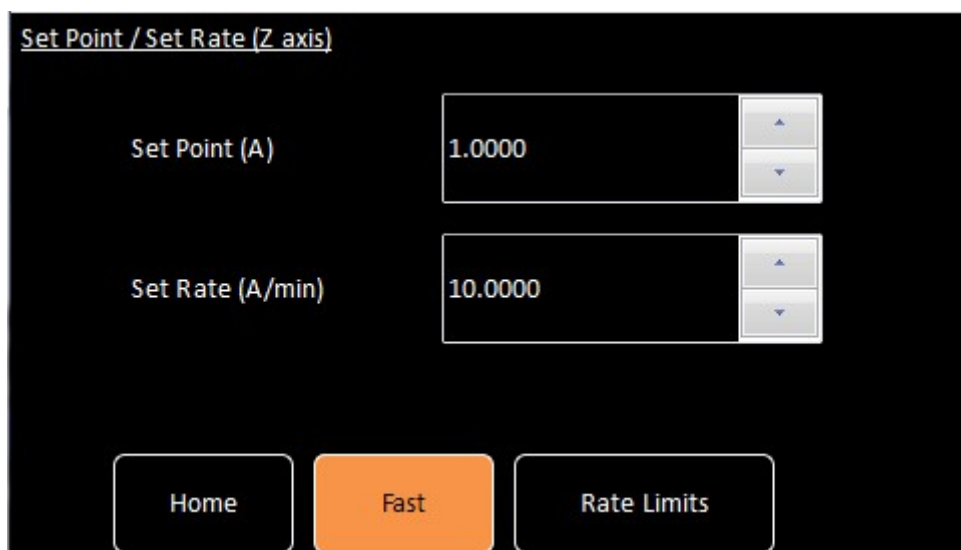

Figure 14. Set Point / Set Rate screen
To energise the magnet it is necessary to enter a set point (target current or target field) and a set ramp rate at which to ramp the magnet current. To do this, tap on the “Current (A)” display of the Home page (Note: if the Home page is in “Tesla” mode, tap on the “Field (T)” display). This will bring up the “Set Point / Set Rate” page show below (Figure 14).
The Fast/Slow button on the “Set Point / Set Rate” page (Figure 14) defines whether fast magnet rate limits, or slow magnet rate limits will be applied. In general fast rate limits should be used. The slow rates are usually only used for training magnets or after a major quench.